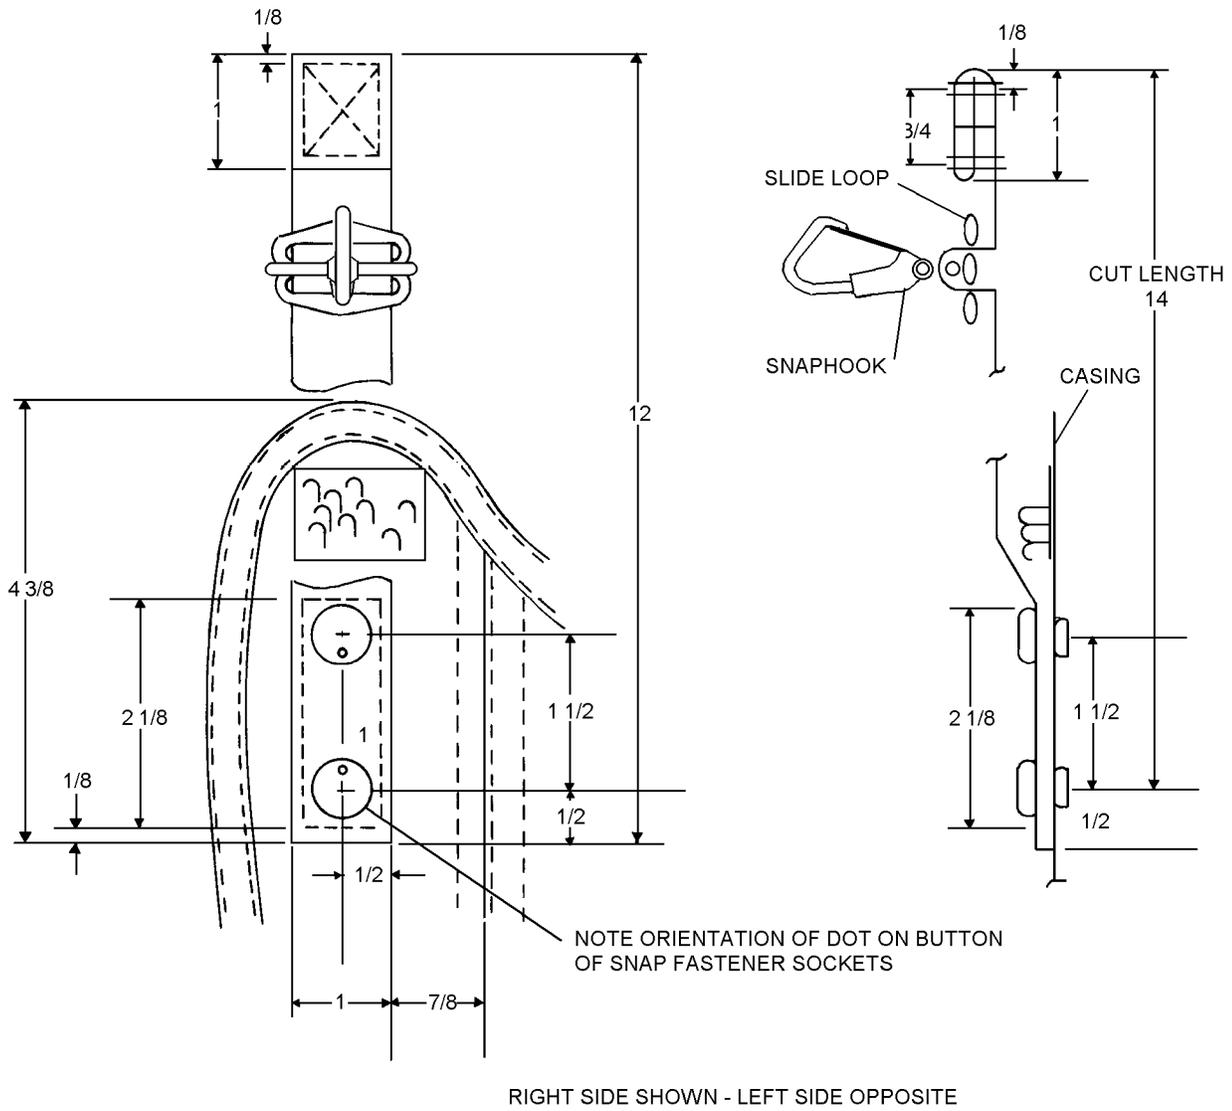

Figure 26-12. Collar Casing Shoulder Strap Fabrication and Installation
2. Form an inch long three-layer end-tab and sew a 3/4 inch long cross box stitch in accordance with figure 26-12.
5. Install two uni-directional snap fastener sockets with dots on caps on the inside (facing) as shown in figure 26-12.